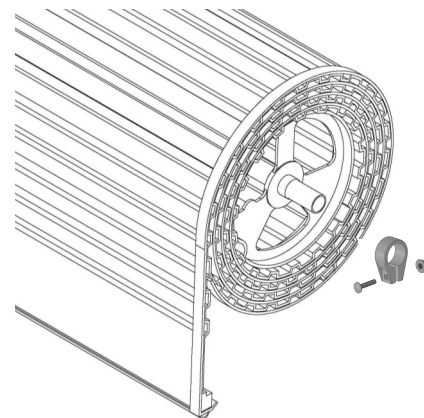

Fig.1
1. Fit anti-coning collar **TIGHT TO SHAFT** against drum at opposite end of curtain to the motor using anti-coning clip supplied in kit as shown in Fig.1.